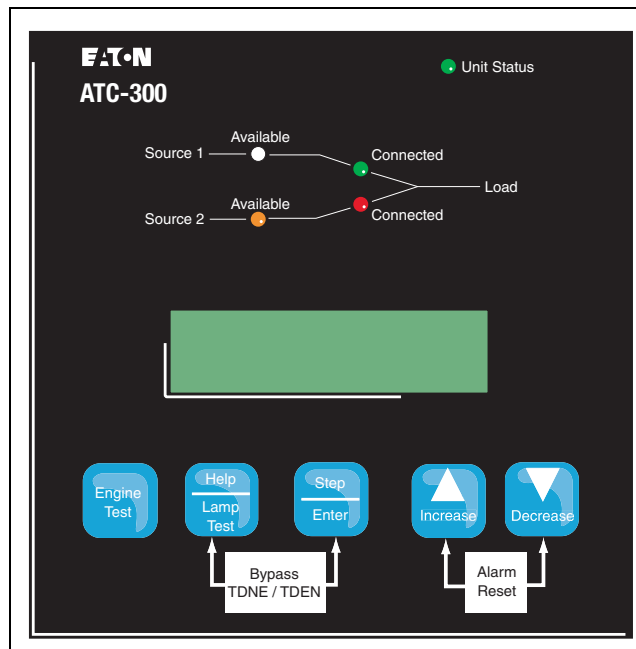

Figure 29. ATC-300 + Logic.
Step 9: Initiate a Load Test from the front panel of the ATC-300 + (Figure 29). This may be done by setting the engine test mode setpoint to: